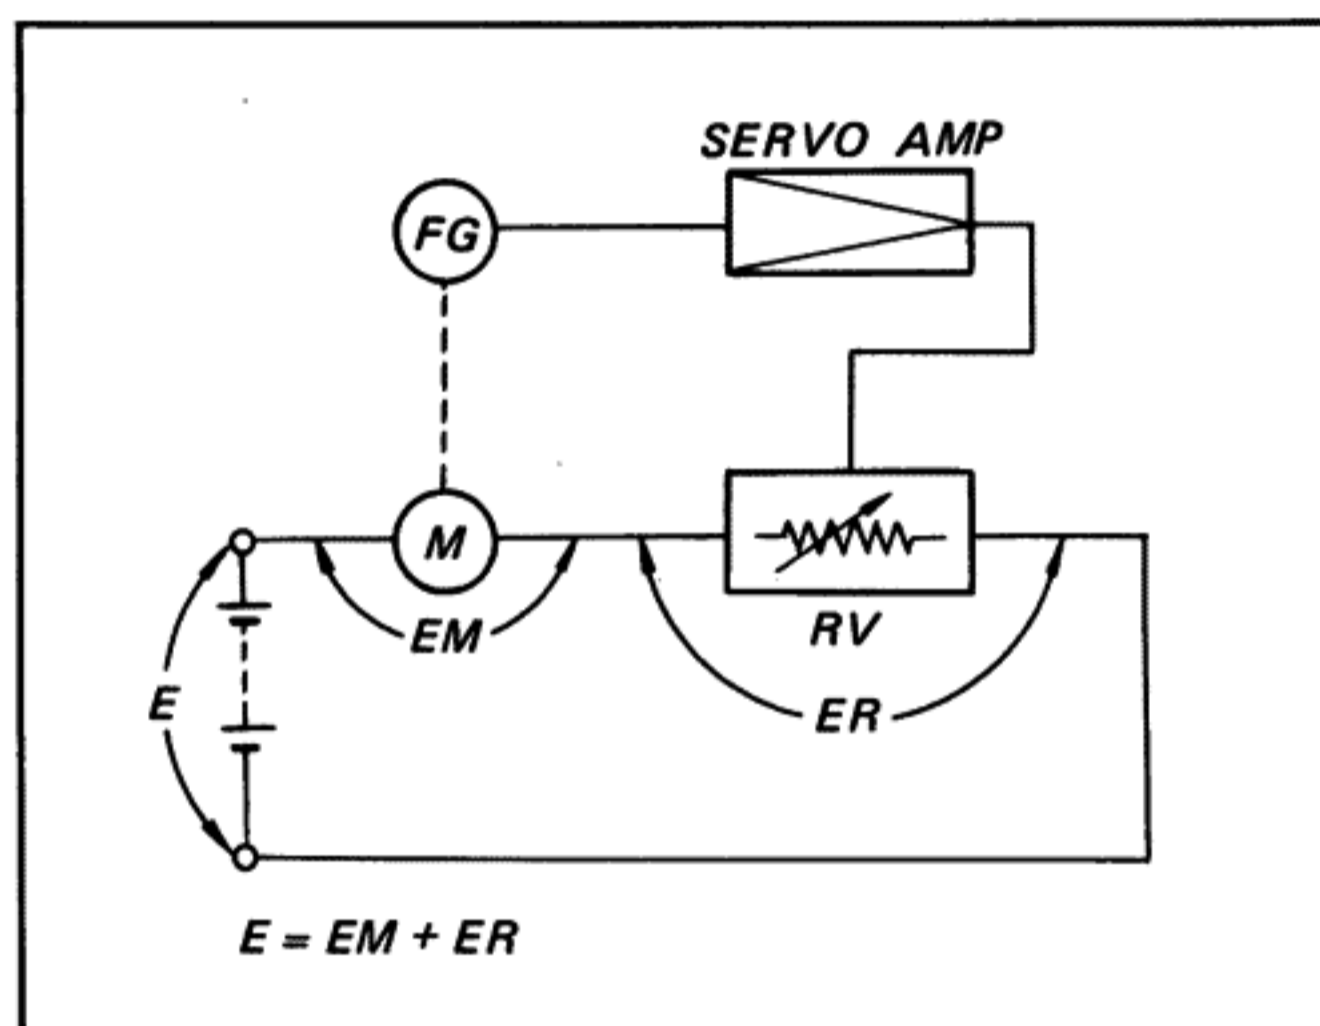

Fig. 1-1. Principle of dc servo system
Fig. 1-1 shows a simplified diagram of the dc servo system employed in this set. Since the motor speed is proportional to the applied voltage, it is controlled by varying the applied voltage (EM) to the motor. This is effectively performed by means of series resistor Rv.